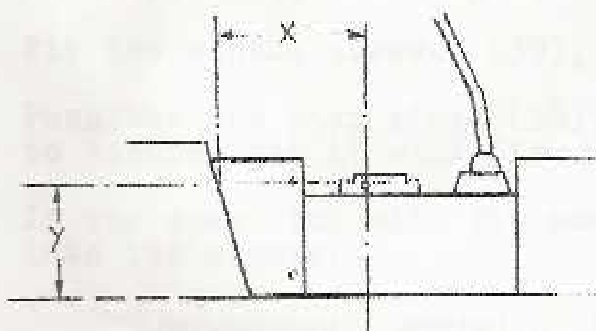

FIG. 2
5. Measure distances X and Y and make a note of the measurements, Fig 2.